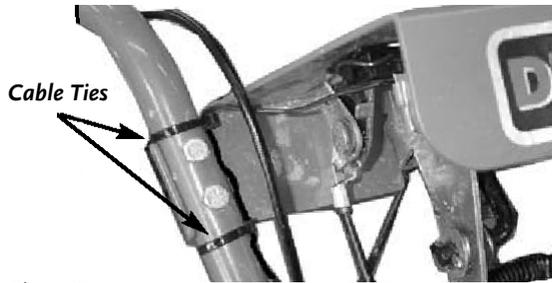

Figure 24
7. Run the Sensor Wire from the Meter to the Handlebar (**Figure 24**) and secure in two (2) places as shown with Cable Ties. **Do not over tighten the Cable Ties.**